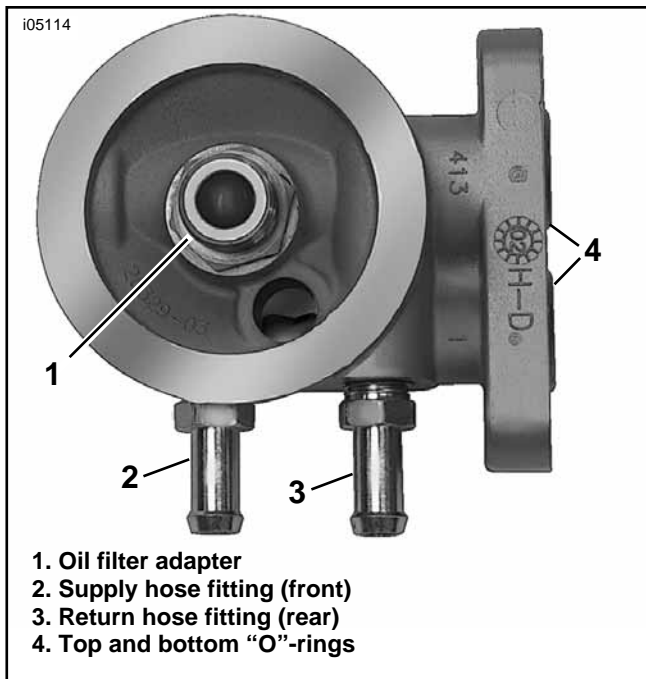

Figure 5. Install Hose Fittings to Oil Filter Mount
20. See Figure 5 and the Service Parts list. With the hardware from Step 15 in place, obtain a hose fitting (Item 13) from the kit. Install the fitting to the rear (return) hole in the oil filter mount.
The hoses can be installed incorrectly, resulting in hose to radiator fitting mis-alignment. See Figure 5 for the proper oil hose positioning.